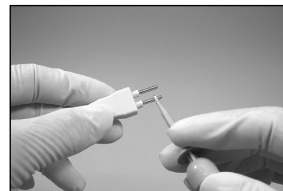

Fig. 9
- ① Press the power key for about one second or longer to turn ON power. (Liquid crystal display lights up)
- ② Pinch either one of the electrodes on the tester with a file clip. (Fig. 9)